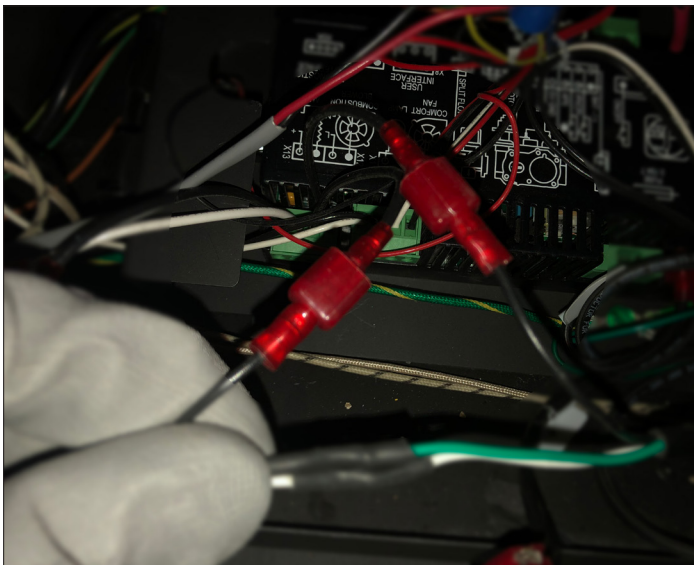

Figure 4.7, Quick Connections to Black Leads
4. The power vent wire harness has the black hot wire split with two female quick connections on either end. Plug these into the black leads that have quick connections coming off the control module in the X12 combustion blower location. See Figure 4.7.